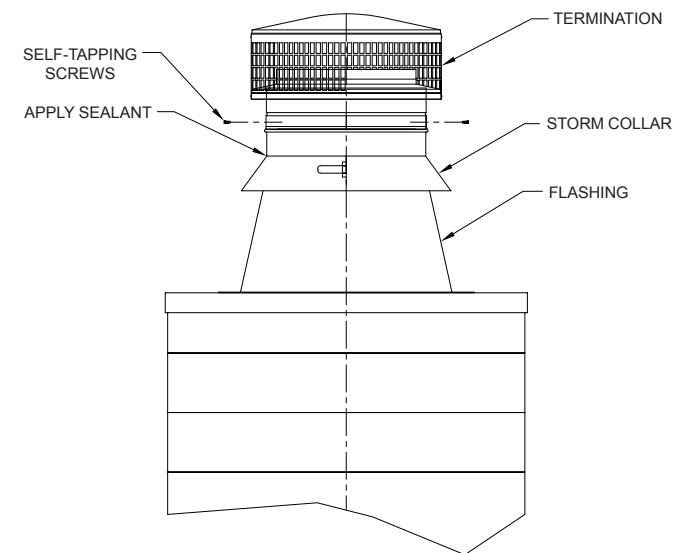

FIG. 11
Attach the storm collar around the chimney above the screen of the flashing. Secure in place with the locking tab and button. Seal around the storm collar with a non-hardening waterproof sealant. Attach the Termination Cap to the chimney by sliding the male to female joint connection together and secure in place with (4) sheet metal screws provided. See FIG. 11.